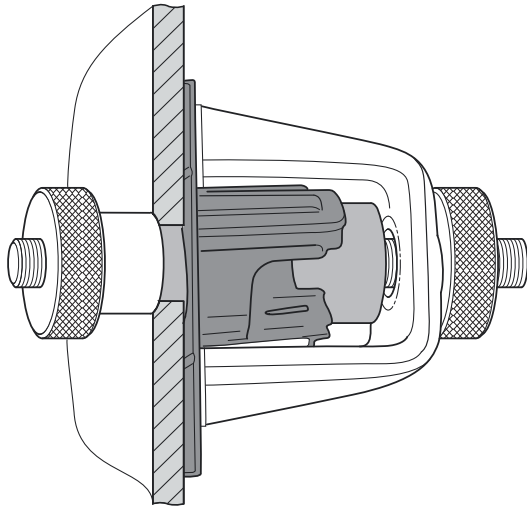

Figure 6
7. If the PDC bracket is to be secured by adhesive, or plastic welded or stapled, then use one of the assembly clamps (G, H or I) to centre and secure the PDC bracket. This will maintain the PDC bracket in position while the adhesive sets or the plastic welding or stapling operation is carried out (Figure 6).